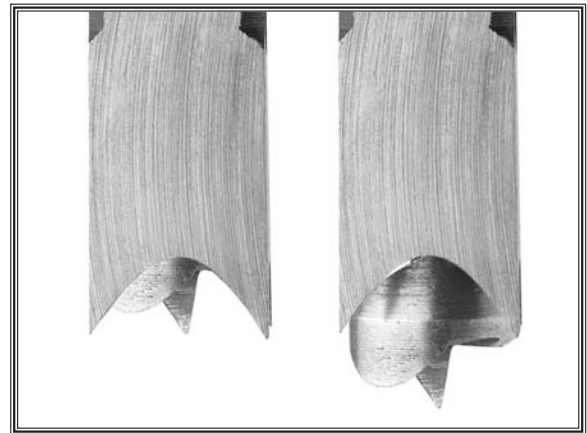

Figure 6. Proper drill bit depth.
2. Secure the drill bit into the drill chuck. Slide the drill bit into the chisel as far as it will go and then allow it to drop back down $\frac{1}{32}$ " - $\frac{1}{16}$ ", as shown in **Figure 6**. If this is not done, wood chips generated by the cutting action will have no place to go, resulting in excessive heat and damage to the tool.